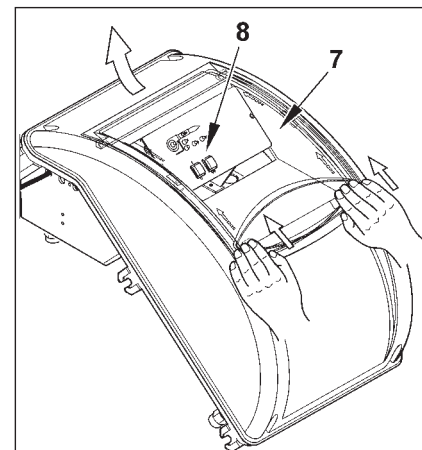

Fig. 4
- To reclose the electrical panel lid, tighten the 4 screws (1) with a tightening torque of about 5 Nm to ensure correct tightness. At this point, to access the control panel (8), unhook the transparent door (7), pressing gently with your hands in the direction of the arrows shown in figure 4, slide it a short distance to separate it from the lid.